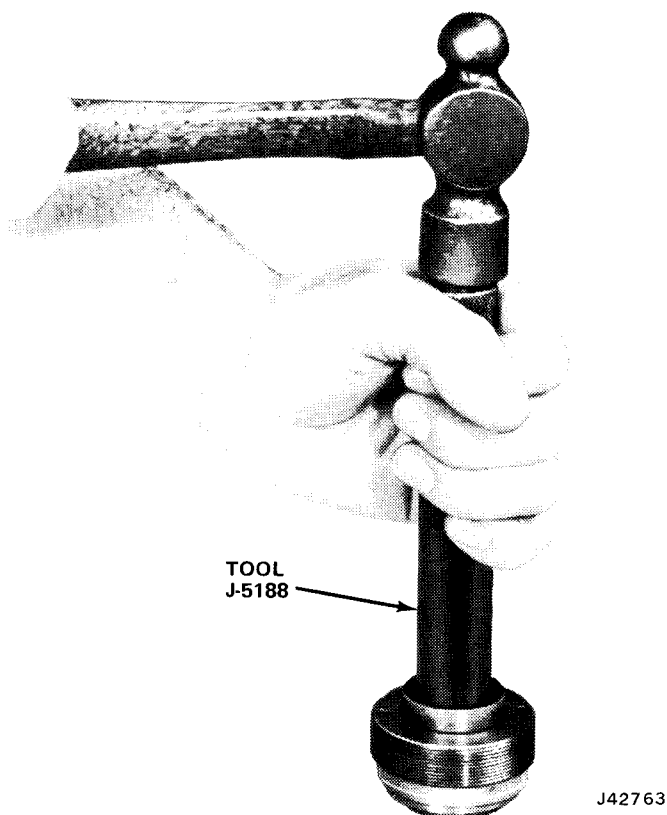

Fig. 11-92 Installing Stub Shaft Seal in Adjuster Plug
(9) Lubricate new stub shaft seal and, using Tool J-5188 (fig. 11-92), install far enough to provide clearance for dust seal and retaining ring.
(10) Lubricate new dust seal and install with rubber surface facing out.
(11) Install retaining ring. Be sure ring is properly seated.